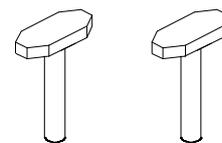

Figure 2-1-4
- **HSS Pin (HSSPIN)**- Plastic pins inserted through the HSSBASE to secure it to the mainboard (two required per Assembly). (Refer to Figure 2-1-4)